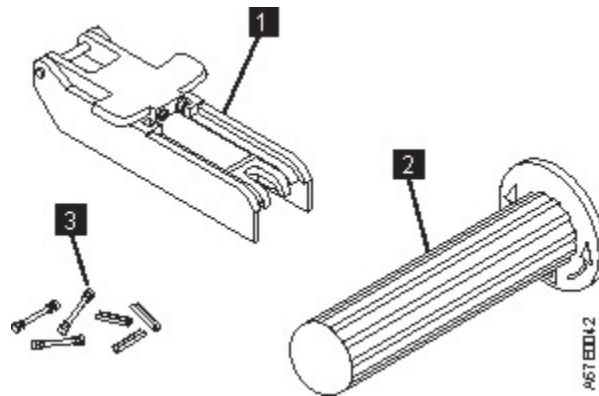

Figure 105. Leader pin reattachment kit
- **Leader pin attach tool** (See **1** in Figure 105 on page 236). A plastic brace that holds the cartridge door open.
- **Cartridge manual rewind tool** (See **2** in Figure 105 on page 236). A device that fits into the cartridge's hub and enables you to wind the tape into and out of the cartridge.
- **Pin supplies** (See **3** in Figure 105 on page 236). Leader pins and C-clips.